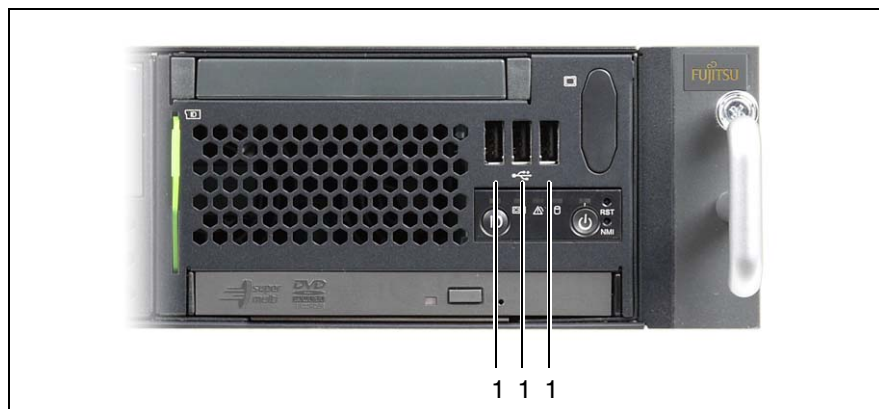

Figure 15: Front side: additional USB connectors
Three additional USB connectors (1) are located on the front of the server (figure 15):